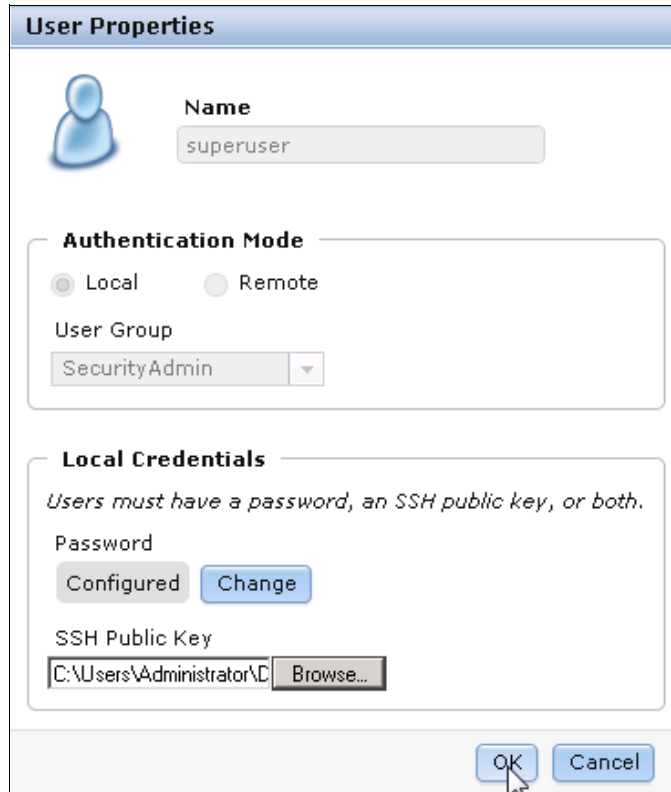

Figure A-8 Select public key
- To upload the public key, click **Browse**, select your public key, and click **OK**, as shown in Figure A-8.